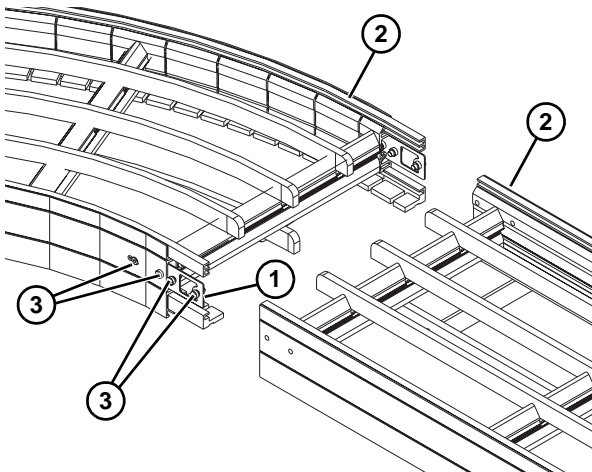

Figure 10
Typical Curve Connecting Components (**Figure 10**)
2. Install two clamp plates (**Figure 10, item 1**) into one conveyor section (**Figure 10, item 2**) by lining up two holes in clamp plate with two holes in conveyor frame. Install two M8x16 low head cap screws (**Figure 10, item 3**) to secure each clamp plate.
3. Join both conveyor sections, and secure with two M8x16 low head cap screws (**Figure 10, item 3**) on both sides. Tighten all cap screws to 84 in-lb (9 Nm).